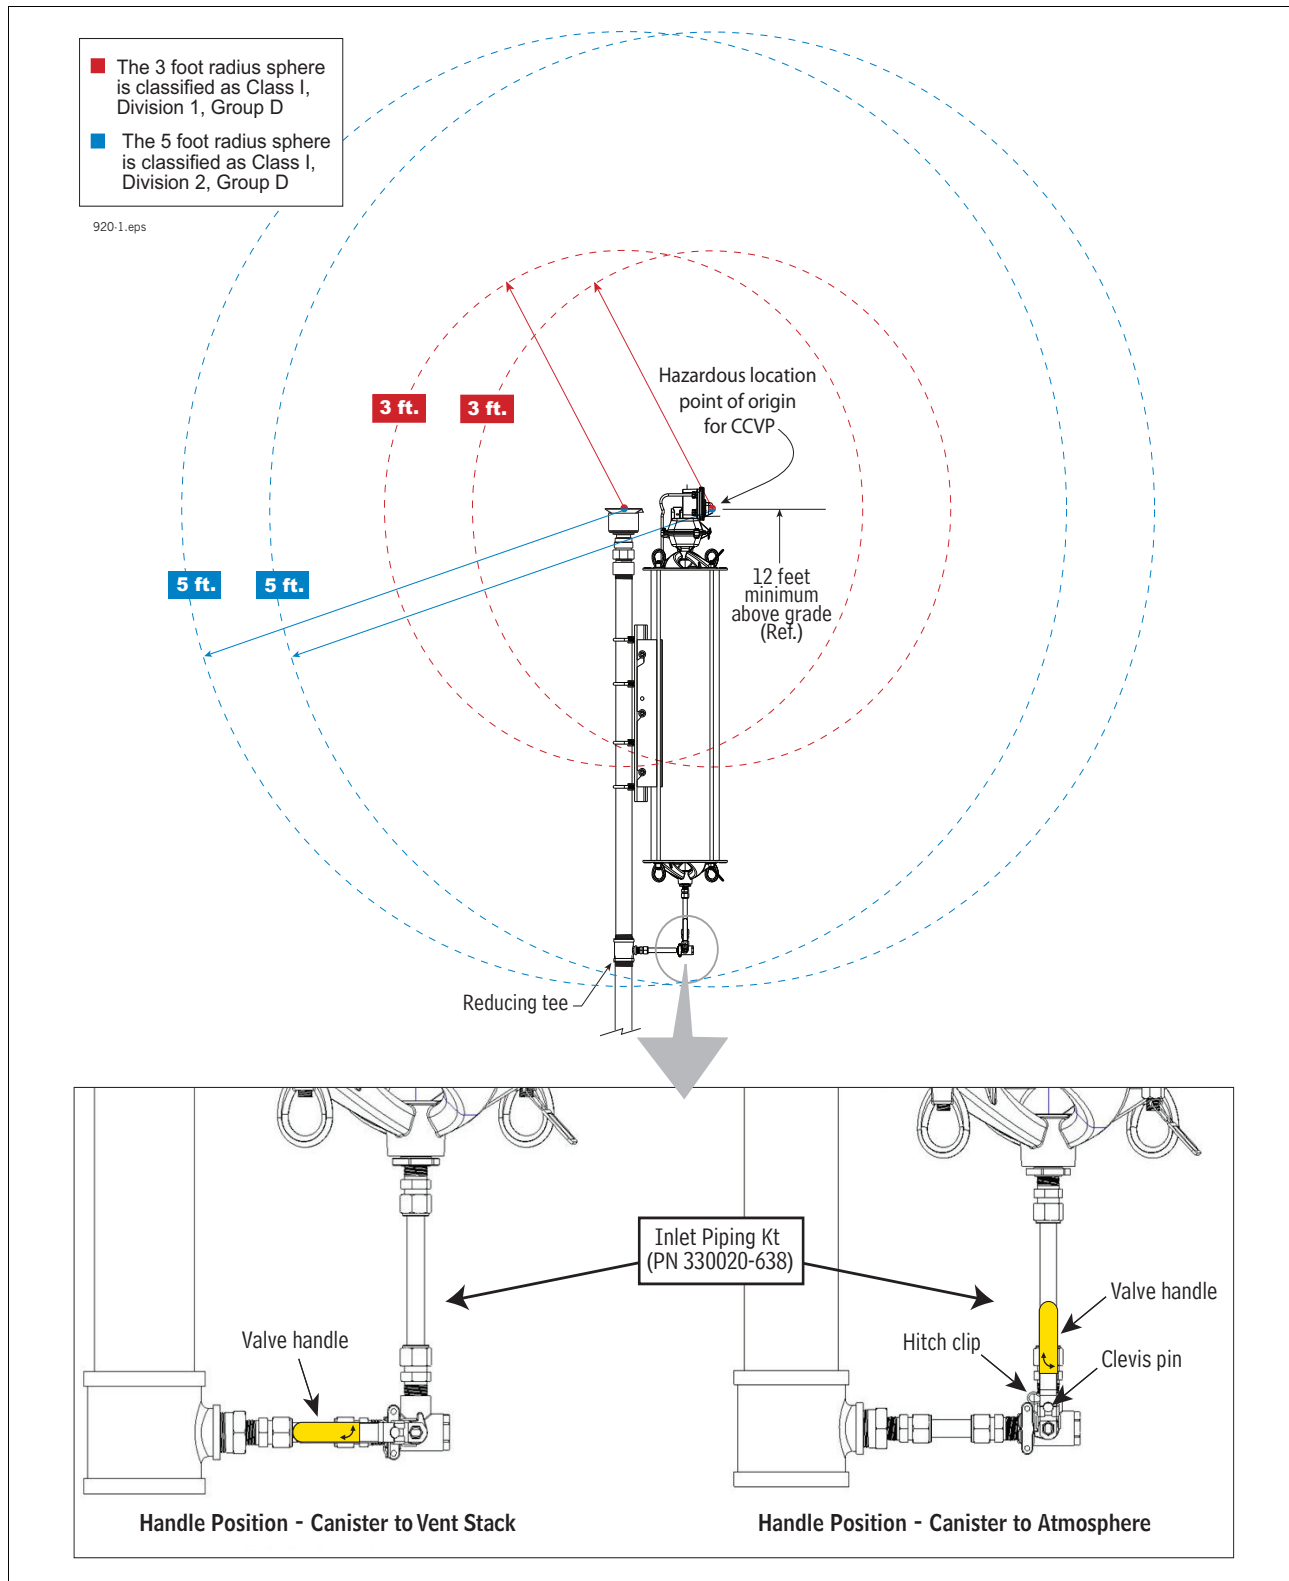

Figure 3. Inlet plumbing detail and classified area definition
- The canister can only be installed in systems with a vapor recovery vent stack fitted with a UL Listed pressure/vacuum (P/V) valve that complies with California Air Resources Board (CARB) requirements and operates between -8 and +6 inches water column. The outlet of the carbon canister vapor valve has the same classified area requirements as the P/V valve per figure 3 and is subject to approval by the local authority having jurisdiction.
8. Figure 3 shows important Class I Div 1, Group D and Class I Div 2, Group D radius spheres and operability test valve handle positions of the installed canister.
15. Connect all lower fittings, valve and tubing between the vent pipe and the lower manifold on the CCVP (see Figure 3).
17. Confirm ball valve is in the open, canister to vent stack position (per Figure 3), then insert the clevis pin and secure with the hitch pin.
- The Hazardous Location Area Classification shown for the CCVP in Figure 3 must be considered from the point of origin for all offset mountings.